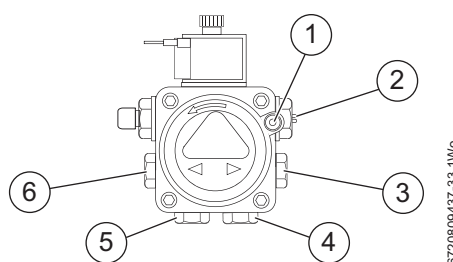
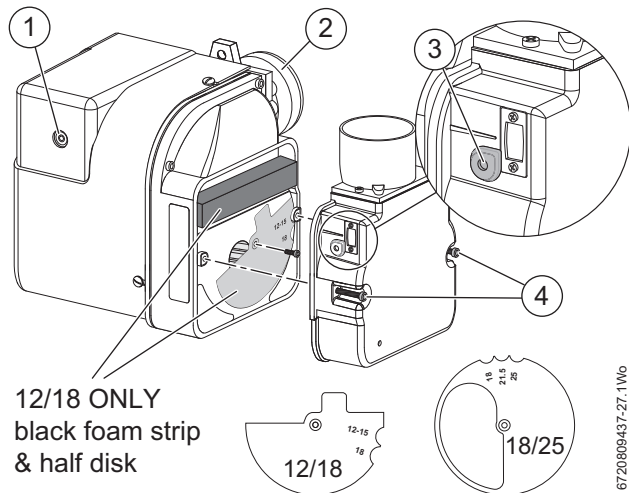

Fig. 45 Oil pump ports/connections
Fig. 46
- ▶ Adjust the air shutter [3] figure 46 and pump pressure [2] figure 45 as shown in the table 6 on page 27. The burner should ignite following a pre-ignition period of approximately 15 seconds.